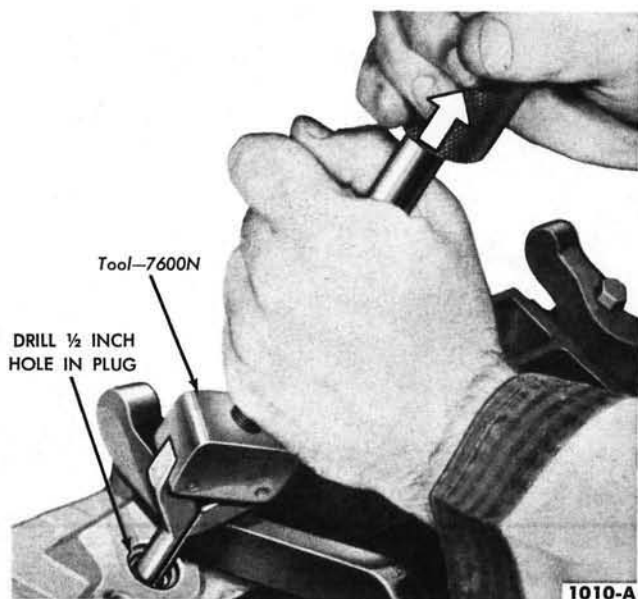

FIG. 29—Water Outlet Plug Removal
**Water Outlet Plug.** To remove the water outlet plug, drill a 1/2-inch hole in the center of the plug and remove it as shown in Fig. 29.